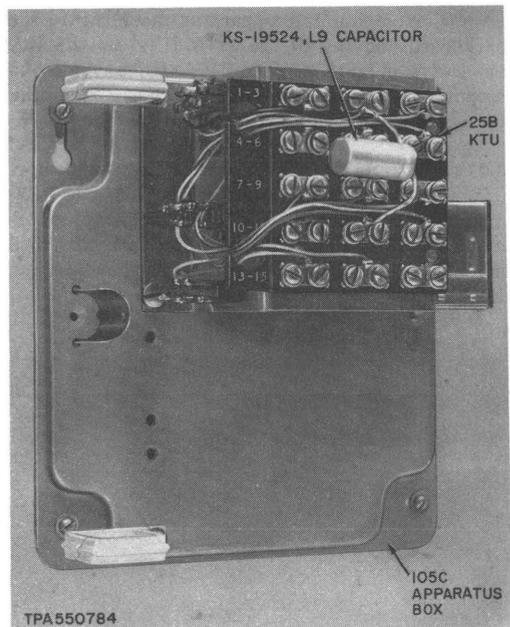

Fig. 7—105C Apparatus Box With Auxiliary 25B KTU
- 3.08** When PCA RCX is used with ground start CO trunks associated with an 800-type PBX, mount an auxiliary 25B KTU on a 15A apparatus mounting with an 813722048 (P-37B204) bracket, or in a 105C apparatus box (Fig. 7), or on a 23-inch
relay rack with bent mounting bars per ED-69143-70. Connect the KS-19524, List 9, 60 μ F capacitor between terminals 2 and 11 on the 25B KTU (see Fig. 7). Make connections as shown in Fig. 13.